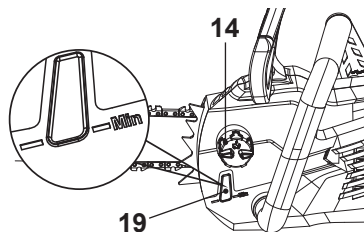

Fig. 13
3. Wipe up spilled lubricant with a soft cloth and refit the oil tank cap (14).
4. Check the oil level window (19) prior to start-up and regularly during operation. Refill oil when the oil level is lower than "Min" marking (Fig. 13).